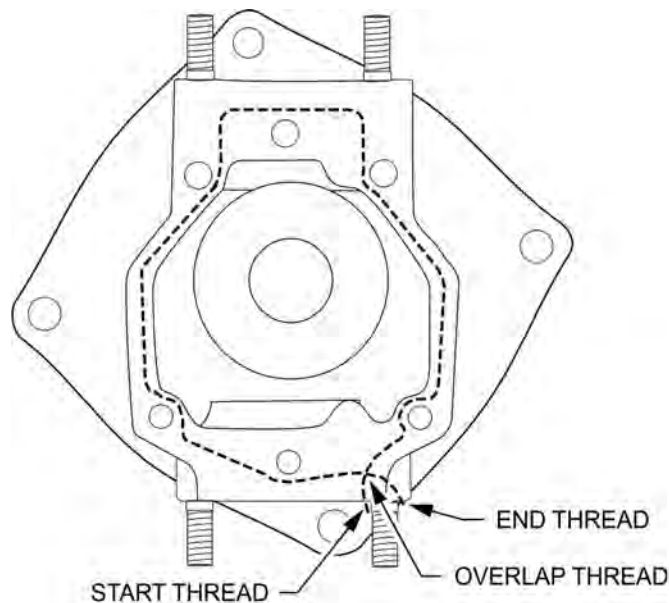

Figure 16. Threading Diagram, Accessory Starter Drive Adapter Assemblies 641348 & 653074
3. Apply P/N 641543 (a continuous, single piece of grade "D" silk thread) as shown by the dashed lines in Figure 16.